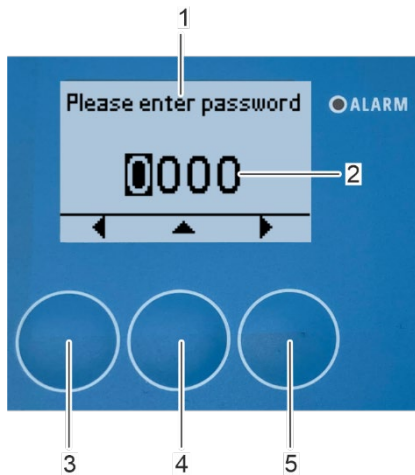

Fig. 122: Enter password
⇒ The display shows "Please enter password" (Fig. 122/1).
3. Enter the password (Fig. 122/2) by using the arrow keys [up] (Fig. 122/4), [left] (Fig. 122/3) and [right] (Fig. 122/5).
4. Use the arrow key [right] (Fig. 122/5) after you have selected the last password digit.